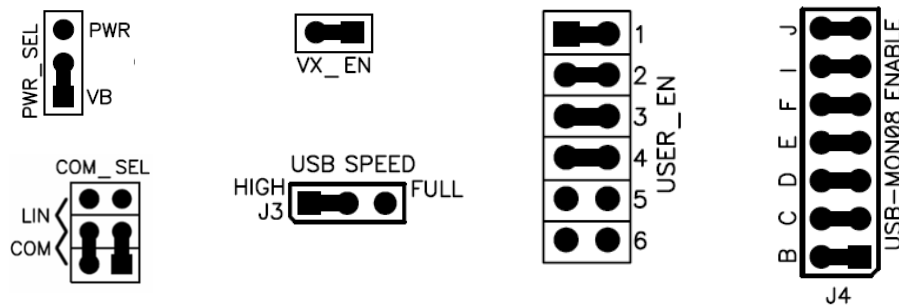

Figure 1. DEMO908QB8 Default Settings
1. Check the jumper settings and make sure they are in the default position. Use figure 1 as a guide.
4. Check the jumper settings and make sure they are in the default position. Use figure 1 as a guide.
- Make sure all the jumpers on the USB-MON08 ENABLE header are installed. Refer to figure 1.